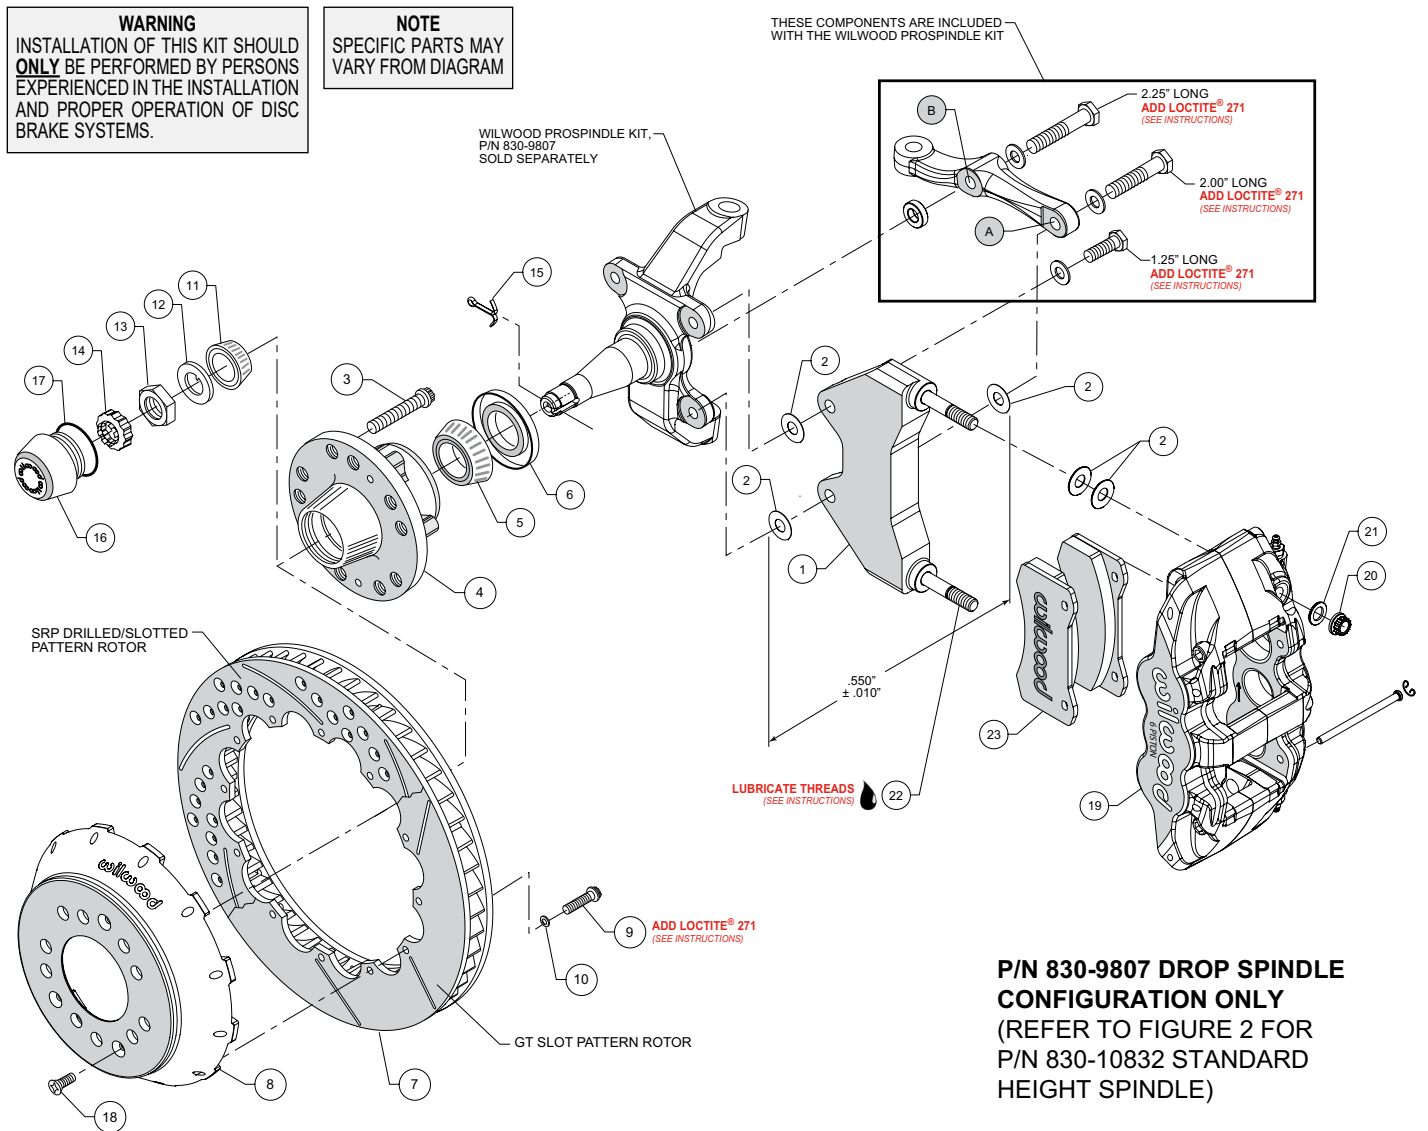
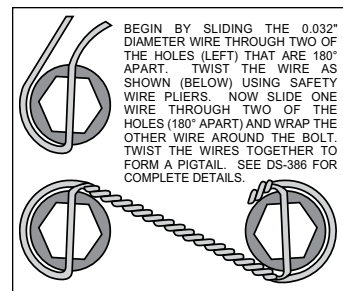

Figure 1. Installation Configuration For Drop Spindle, P/N 830-9807
Figure 4. Safety Wire Diagram
Numbers in parenthesis refer to the parts list and Figures 1 and 2 on the preceding pages.
- NOTE:** Each Wilwood ProSpindle kit includes bolts, washers, and a spacer to mount the steering arm and caliper bracket. The various bolts are identified by length in the following instructions and in Figures 1 and 2.
- Orient the bracket as shown in Figure 1 and Photo 1. Install at top spindle hole using 1.25" long bolt and .06" thick washer (from ProSpindle kit), and one .030" thick shim (2) between the bracket and spindle, Figure 1.
- Orient the steering arm, and identify the hole marked 'A', as shown in Figure 1. Install at bottom spindle hole using 2.00" long bolt, .06" thick washer (from ProSpindle kit), one .030" thick shim (2) between the steering arm and the bracket, and another .030" thick shim (2) between the bracket and spindle, Figure 1. The bracket is located between the steering arm and spindle. **NOTE:** The bracket and shim washers must add up to a total thickness of .550" \pm .010", Figure 1.
- Finish attaching the steering arm through the hole marked 'B', as shown in Figure 1. Install using 2.25" long bolt, .06" thick washer, and .25" thick spacer (all from ProSpindle kit), Figure 1.
- Install the grease seal (6) by pressing into the backside of the hub (4), flush with the end of the hub, Photo 4.
- Orient the rotor (7) and the hat (8) as shown in Figures 1 or 2, and Photo 5. Attach rotor to hat using bolts (9) and washers (10). Apply red **Loctite® 271** to the bolt threads and torque to 155 **in-lb** using a criss-cross pattern. For an added measure of security, the bolts may be safety wired using standard 0.032 inch diameter stainless steel safety wire as shown in Figure 4. Refer to Wilwood's data sheet DS-386 (available at www.wilwood.com/Pdf/DataSheets/ds386.pdf) for complete safety wire installation instructions.
- Screw dust cap (16) into hub (4), Photo 7. Friction created by the o-ring (17) on the dust cap keeps it from unscrewing.
- Slide the hat/rotor assembly (7/8) onto the hub (4) taking care to align the small countersunk holes in the hat with the small threaded holes in the hub. **NOTE:** The hat must fit flush against the hub face or excessive rotor run out may result. Install three flat head screws (18) through the small holes in the hat (8), Photo 7, and torque to 85 **in-lb**.
- NOTE:** This kit contains distinct right and left hand calipers that must be mounted in a specific direction, as described below. Lubricate the caliper mounting studs (22) with lightweight oil. Initially place two .030" thick shims (2) on each stud as shown in Figure 1 or 2, and Photo 8. Mount the caliper (19) onto the bracket (1) using lock nuts (20) and washers (21), Figure 1 or 2. Ensure that the caliper is mounted so the largest pistons are at the rotor exit end of the caliper, in relation to the direction of rotor rotation. Temporarily tighten the lock nuts. View the rotor through the top opening of the caliper. The rotor should be centered in the caliper, Photo 9. If not, proceed as follows:
- For the lower bracket mount bolt, if a shim was added between the bracket and spindle, then a shim must be removed between the steering arm and bracket, such that the total thickness of bracket and shims remain equal to $.550 \pm .010$ ", Figure 1.
- Adjust by adding or subtracting shims (2) between the bracket and the spindle. Always use the same amount of shims on each of the two mounting bolts.
- Remove the two pad retaining pins from the caliper (19) by carefully popping out the pin retaining clips and sliding out the pins. Insert the brake pads (23) into the caliper from the bottom, Figure 1 or 2, and Photo 10. With the friction material facing the rotor, secure the brake pads in place with the pad retaining pins and clips, Photo 11. Reinstall the caliper onto the caliper mounting bracket and temporarily tighten the lock nuts. Check that the top of the brake pad is flush with the outside diameter of the rotor, Photo 12. If not, adjust by adding or subtracting shims (2) between the caliper and the bracket. After the caliper pad height is set, torque the caliper lock nuts (20) to 47 ft-lb.